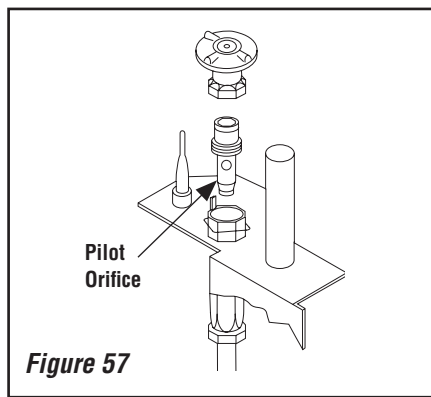

Figure 57
Step 6. See **Figure 57** and remove the pilot hood assembly to access the hexed pilot orifice. Remove and replace the orifice with the one provided with the kit.